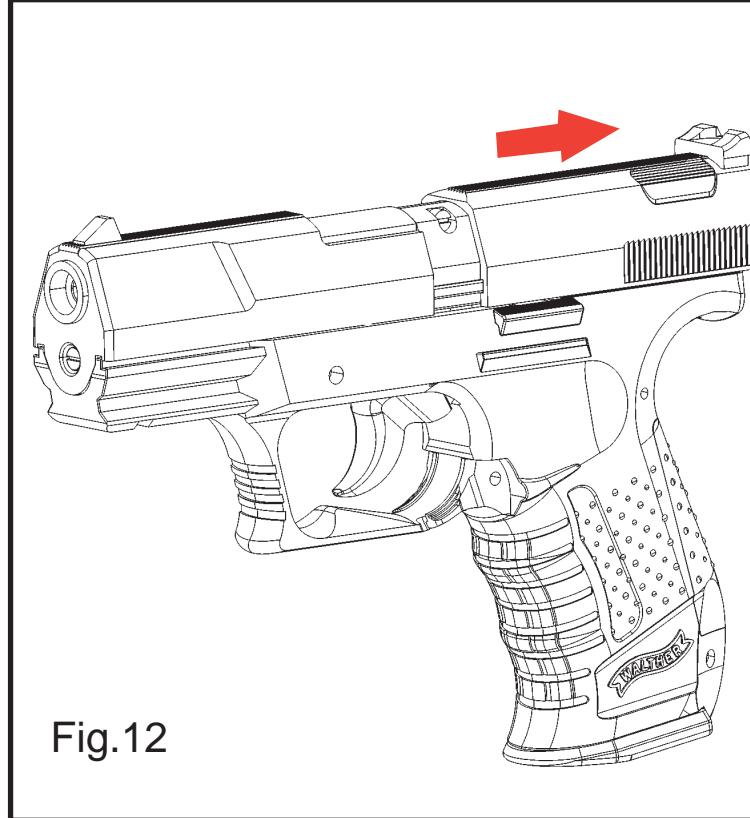

Fig.12
**NOTE:** This air pistol will function in either "Double Action" or "Single Action" mode. To fire in "Double Action", apply steady pressure to the trigger until the pistol fires. "Single Action" mode means that the internal striker has to be manually cocked prior to firing. To use "Single Action" mode, grip the rear part of the slide and pull it back, release it to allow it to move forward and squeeze the trigger (Fig.12). For rapid-fire shooting, we recommend the "Double Action" mode, for more precise shooting, we recommend the "Single Action" mode.